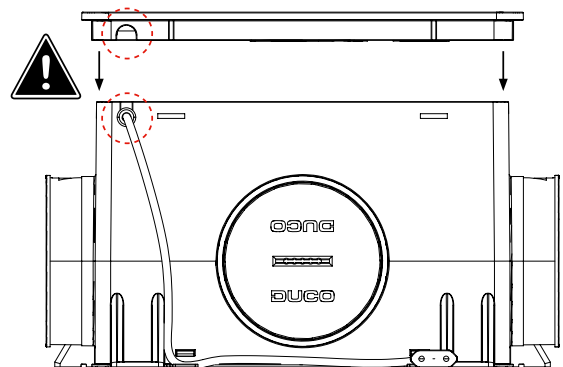

Figure 16: Note the recess in the lid
7. Mount the lid correctly on the unit. Make sure the notch in the lid is over the power cable opening ("Figure 16: Note the recess in the lid" on page 10: Note the notch in the lid). Screw the lid back on and close with the cover plate.